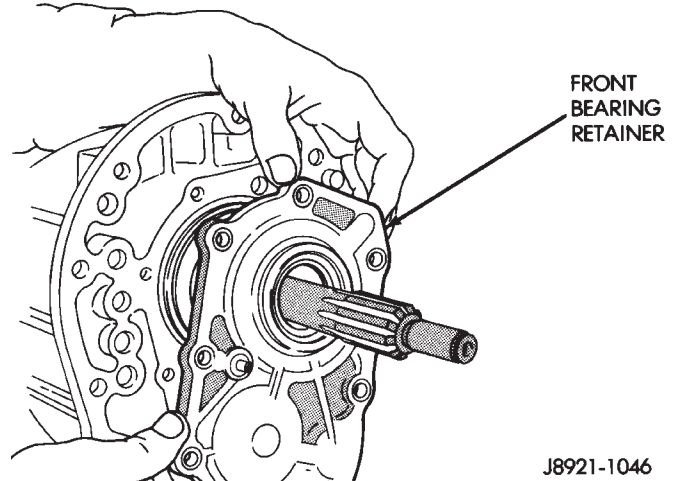

Fig. 31 Remove Front Bearing Retainer
(20) Remove the bearing retainer from transmission case (Fig. 31).